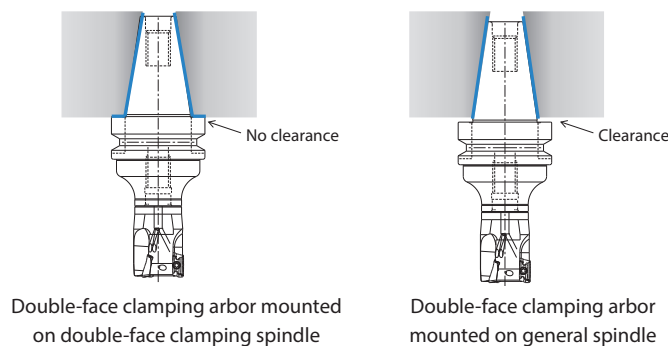

Fig. 3
3. Confirm that the head is fixed firmly on the arbor. (Fig. 3)